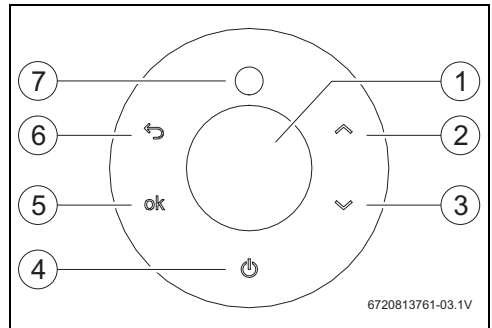

Fig. 38 Touch control display
- Touch and hold symbol  for more than 3 sec. The LCD display shows the selected temperature. When the burner is on, the display shows symbol  (Fig. 38, [7]).